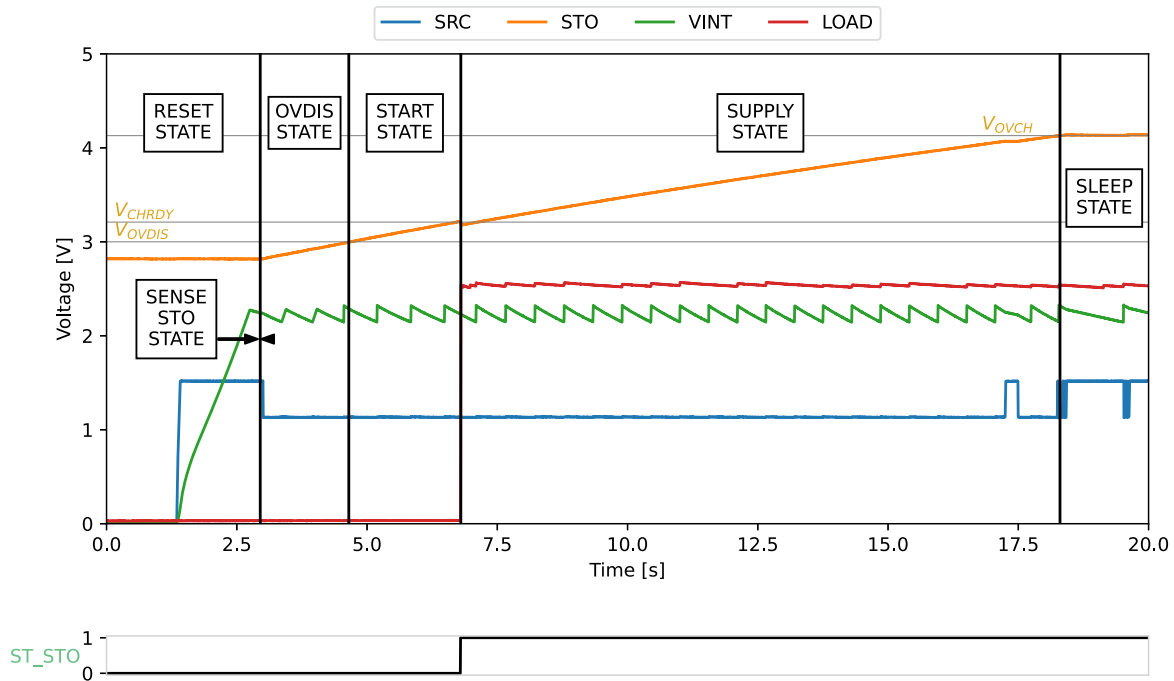

Figure 11: Start up behavior
- In **SUPPLY STATE**, the AEM10920 keeps charging the storage element from **SRC**. The **LOAD** output is now enabled, so that V_{LOAD} is regulated to 2.5 V, and the **ST_STO** pin is asserted. Around 17.2 s on Figure 11, the AEM10920 performs a second V_{OC} evaluation as $T_{MPPT,PERIOD}$ has elapsed. A new V_{MPP} target is set to 75 % of V_{OC} , which has not changed in this example. Once V_{STO} reaches V_{OVCH} , the AEM10920 switches to **SLEEP STATE**.
- Around 19.5 s on Figure 11, the AEM10920 recharges V_{INT} from **SRC** but remains in **SLEEP STATE**.